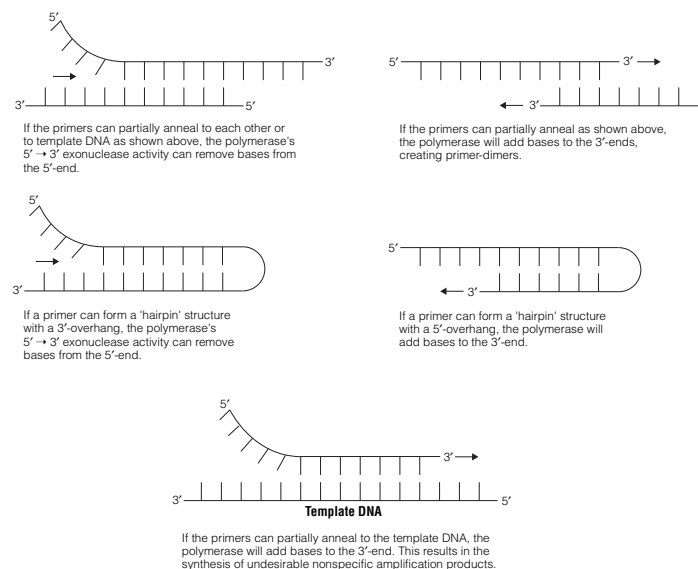

Figure 1. Examples of unwanted reactions that occur at lower temperatures prior to PCR amplification.
Unwanted side reactions occurring during the PCR process usually begin at room temperature. Examples of several such reactions are illustrated in Figure 1. In general, hot-start techniques limit the availability of one essential reaction component until a higher temperature (>60°C) is reached. This can be done manually by the addition of the critical component when the reaction mixture reaches the higher temperature (1); however, this method is tedious and can increase the chances of contamination. Other techniques incorporate the critical substance in a wax bead, which melts at the higher temperature, releasing the missing component (2,3). Another method involves use of an antibody to the polymerase, which at lower temperatures binds the enzyme and prevents polymerization. At higher temperatures, the antibody binding is reversed, releasing a functional polymerase (4).